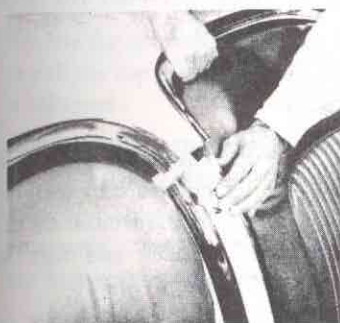

Fig. 38—Releasing Folding Top Lid
1. Push button on the panel between the seats to release the folding top lid, then, insert fingers under the lid and raise it to the open position (fig. 38).